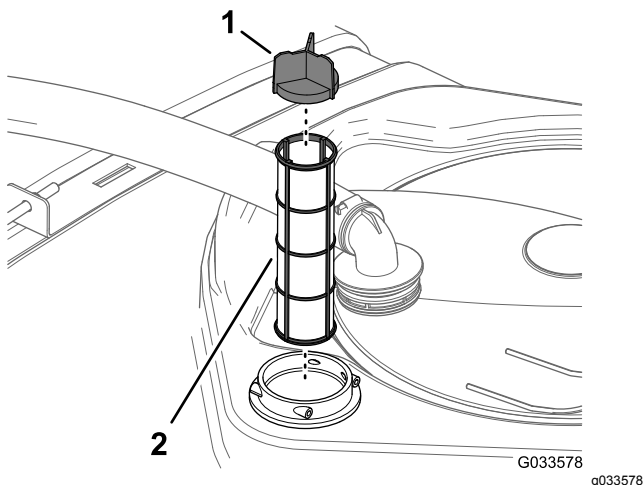

Figure 14
4. Pull the suction strainer out of the filter housing in the tank (Figure 14).